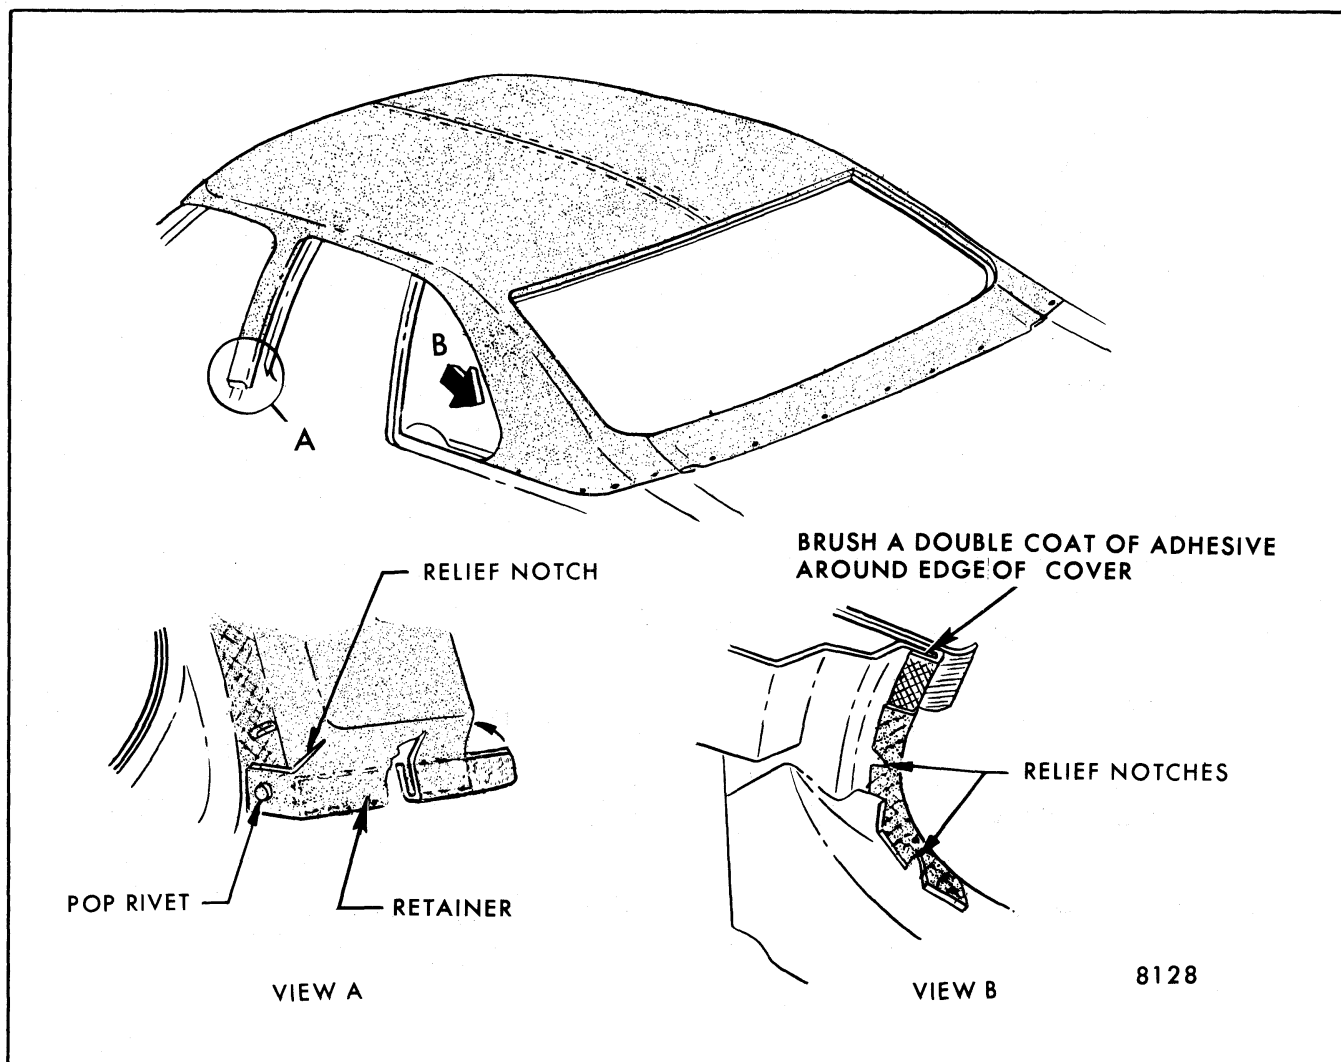

Fig. 8-31-Fabric Roof Cover Installation at Center Pillar and Quarter Window - "A-29" Styles
3. On "A-29" styles drill out four pop rivets and remove retainers (Fig. 8-31).